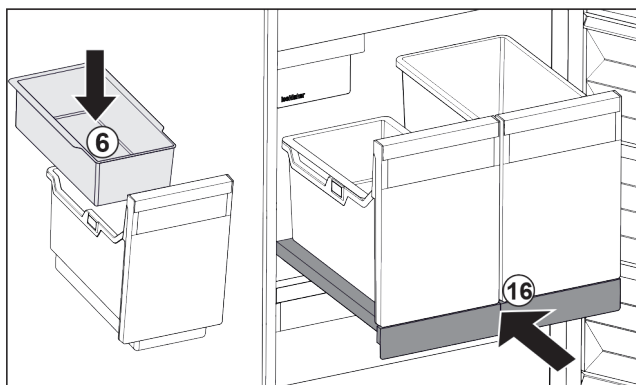

Fig. 25
- Insert hang-on tray Fig. 25 (6) for ice cubes.
- Slide in the pull-out board with (IceTower) container. Fig. 25 (16)